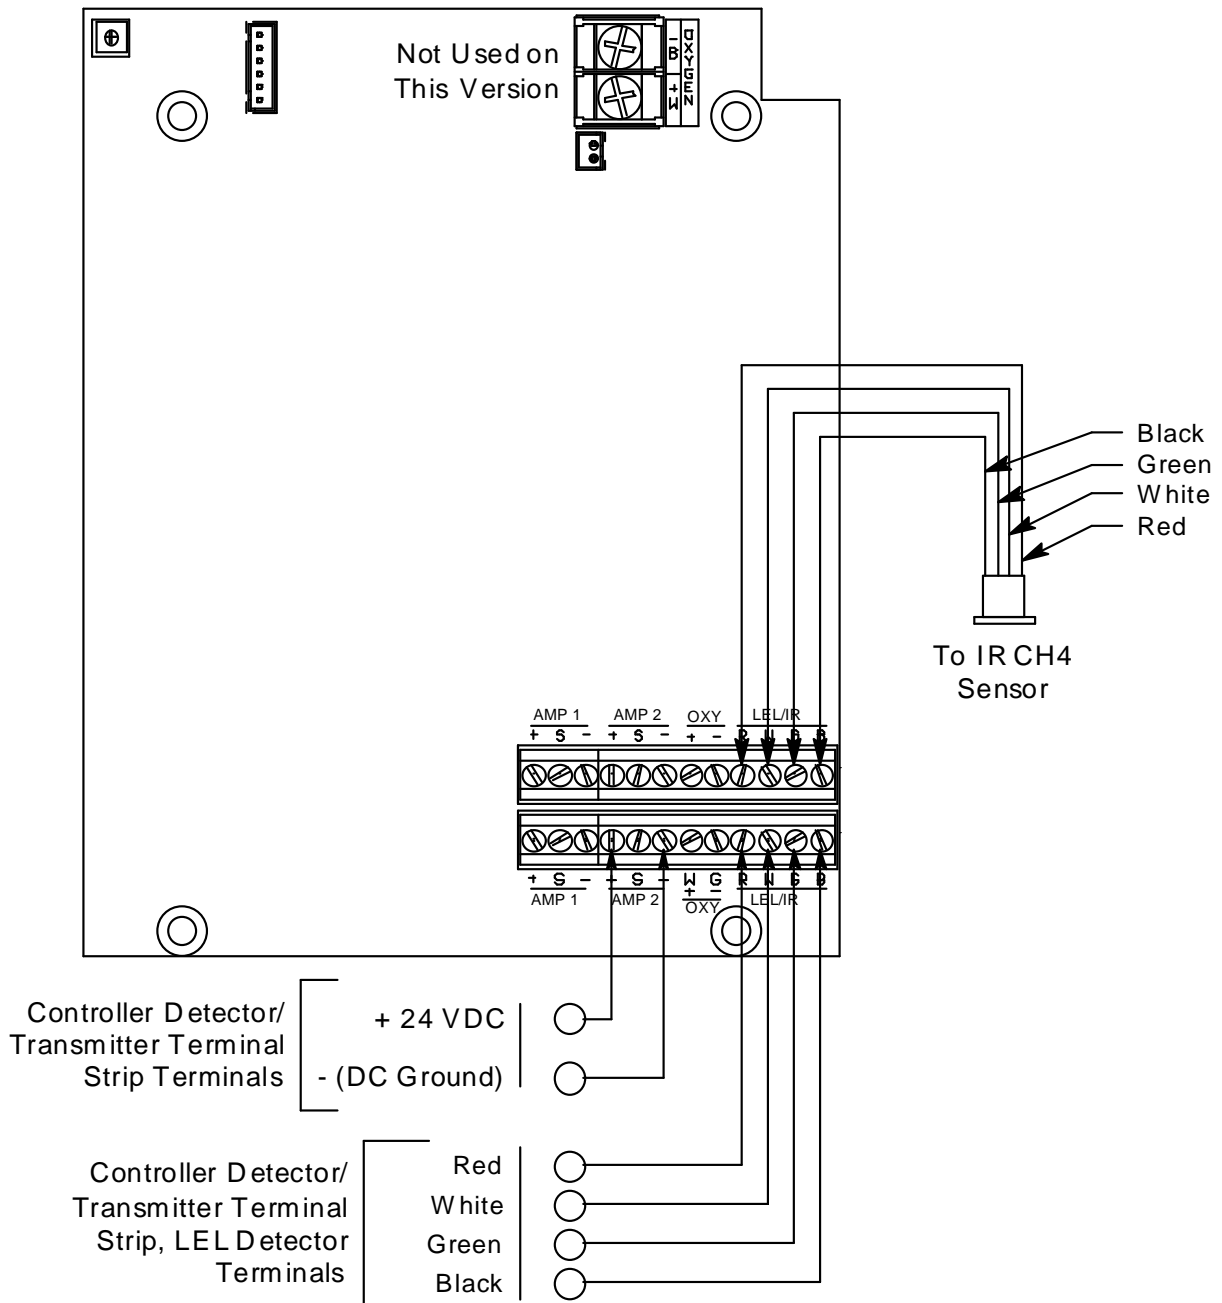

Figure 4: Wiring the Sample-Draw Detector to a Controller
5. Connect the cable to the sample-draw detector’s interconnect terminal strip as shown in Figure 4.
- Connect the wires to the applicable detector/transmitter terminal strip at the controller as shown in Figure 4. Refer to the controller operator's manual and the controller detector head specification sheet for the 35-3001-01-03 for detector/terminal strip connections specific to the controller.